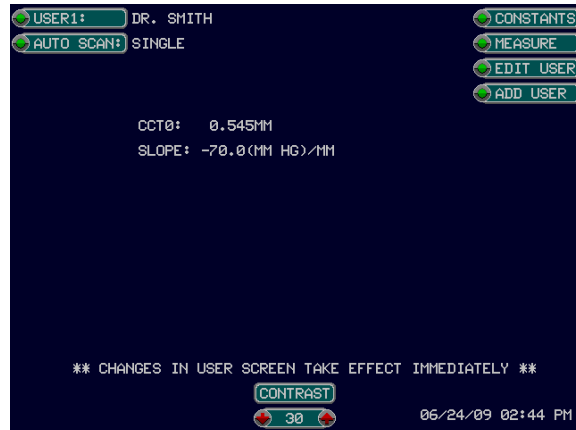

Figure 4-2 User Data Screen
1. **Entering / Editing User Identification.** Touch the [**USER**] button located on the upper right of the display. Verify that the User Data Screen appears (see Figure 4-2).